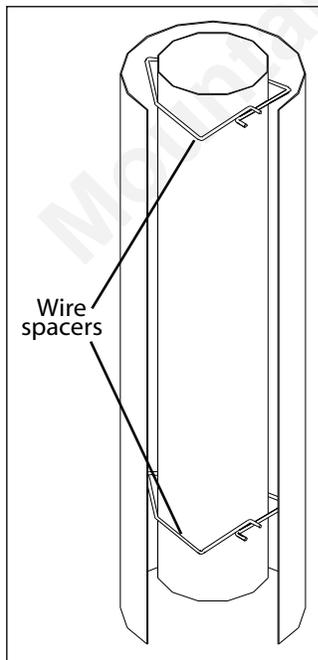

Figure 16: Wire Spacers.
8. Slide the Ø6 5/8" (16.25 cm) flex intake liner over the flex vent. Install four (4) wire spacers around the flex pipe. Ensure the wire spacers are positioned at either end of the pipes, and at each end of any elbows in the liners (refer to Figure 16 and 17).